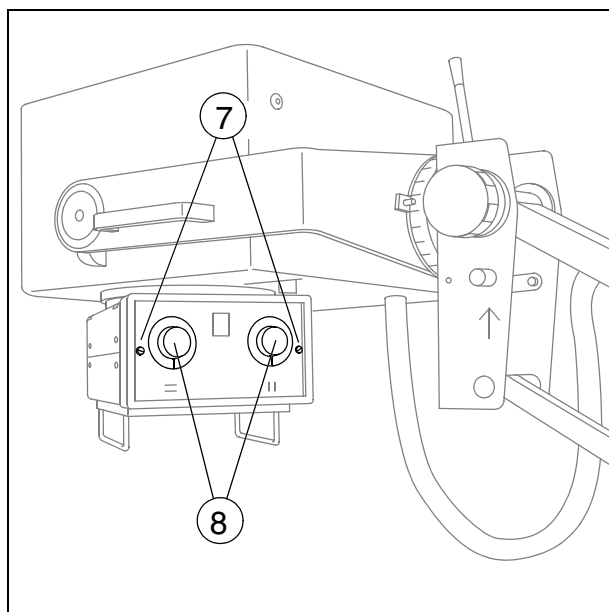

Fig. 6
- Remove the front panel after you have removed the two screws (7/Fig. 6).
- Turn both knobs (8/Fig.6) to the end position and remove them.
- Remove the front panel after removing both screws (7/Fig.6) .